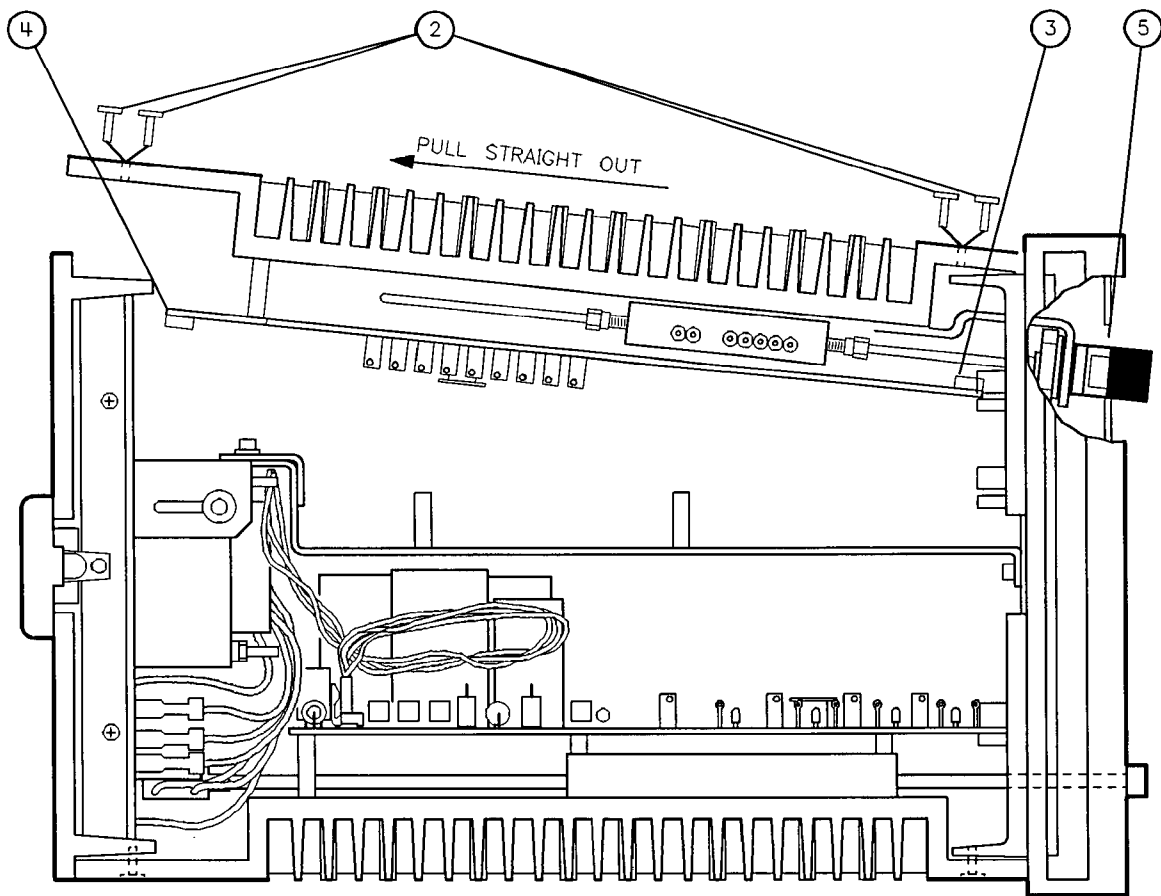

Figure 6-9. Removing the A1 Assembly
1. Place the instrument on its right side, as shown in Figure 6-9.
2. Remove the four screws that attach the side casting to the front and rear castings (see ②).
3. *Partially* disconnect the amplifier bias assembly from the motherboard connector (see ③).
4. Lift the assembly up so that the amplifier bias assembly clears the rear casting (see ④).
5. Completely disconnect the amplifier bias assembly from the motherboard connector, and pull the assembly straight out. Be very careful as you move the RF connectors through the front panel (see ⑤).